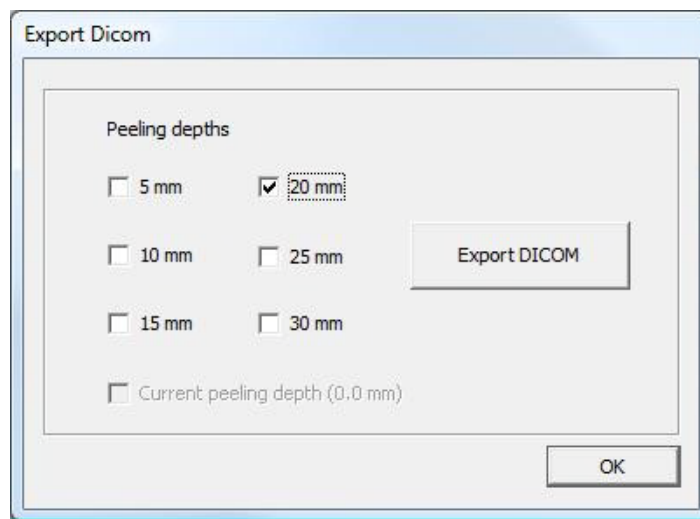

Fig. 125. Export DICOM -dialog
3. In the appearing **Export DICOM** -dialog (Figure 125), you can select the peeling depths you wish to use for the export.